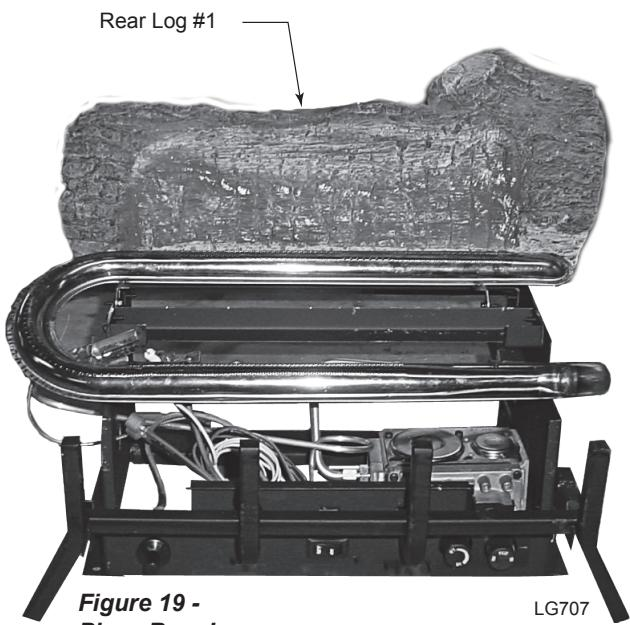

Figure 19 -
1. Place Rear Log (#1) on rear support. *Figure 19*